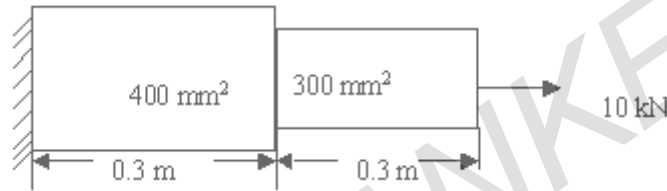

Figure 8
8. Determine the natural frequencies and mode shapes of a stepped bar as shown in figure 8 using the characteristic polynomial technique. Assume  $E = 250$  Gpa and density is  $7850$  kg/m3. [16]